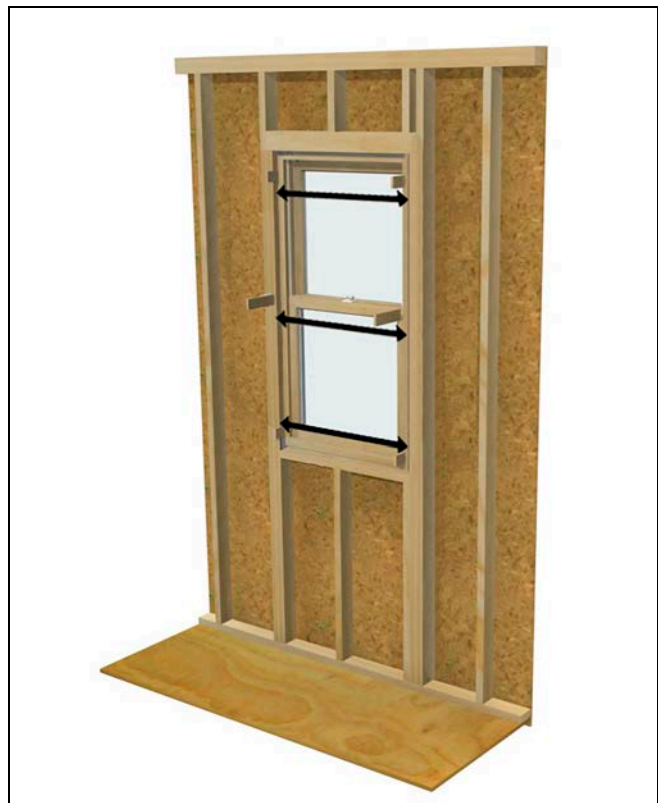

Figure 21
5. Measure at head jamb, center of unit, and sill to make sure all dimensions are equal. If they are not, you will have to adjust the shims accordingly. See Figure 21.